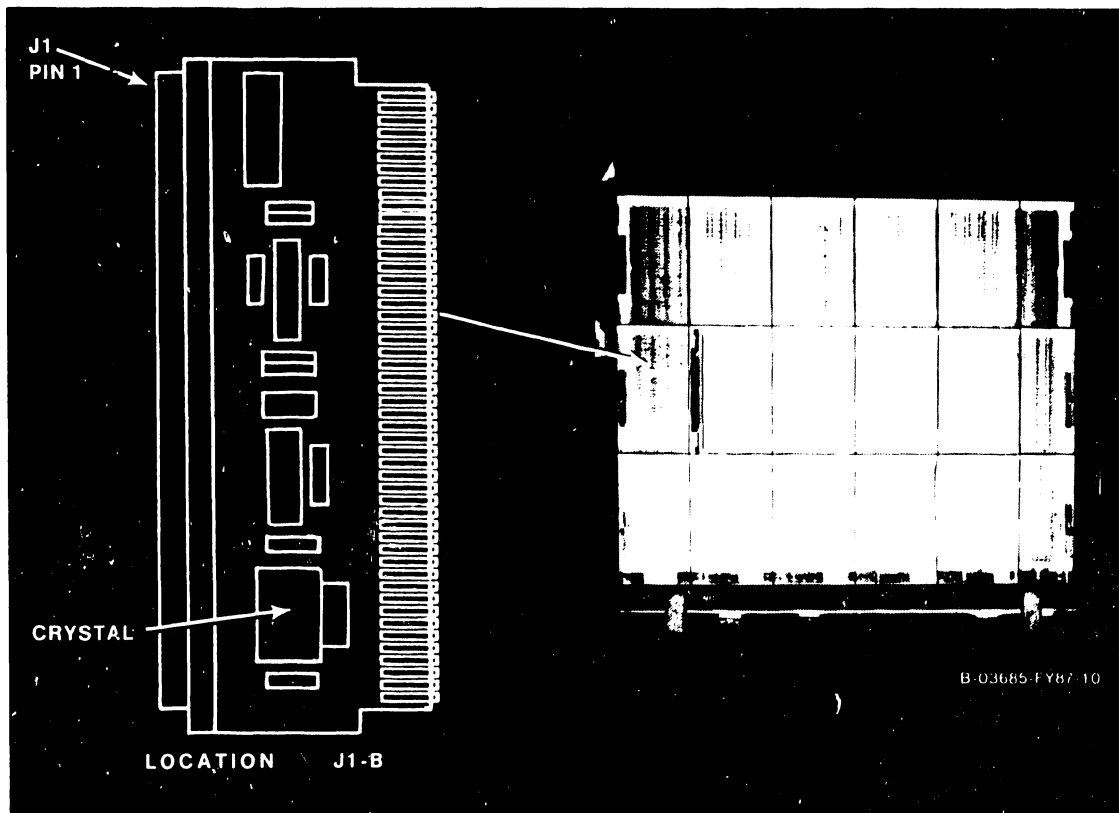

Figure 7-11. 210-8846 External Clock Board
1. The External Clock board (figure 7-11) supplies system clock to maintain centralized system component synchronization. It is located on the rear of the backplane at slot #1 (FPU slot), connector B (J1-B).